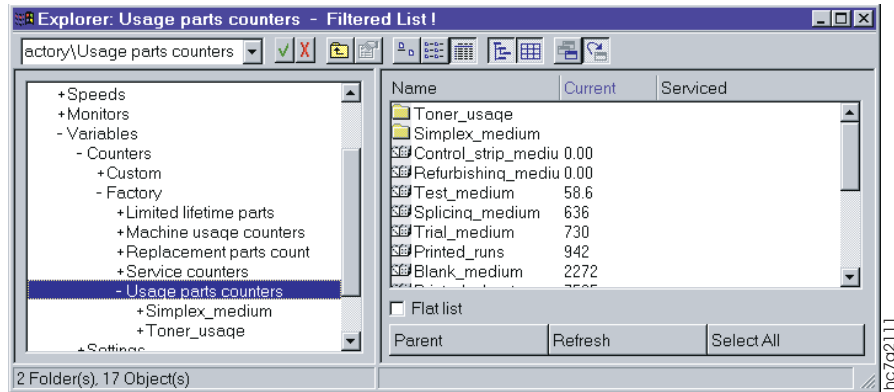

Figure 222. Usage Parts Counters Window
1. To look at the usage parts counters, open the **Counters** window, as shown in Figure 222 on page 256.
3. Click again on **Usage parts counters** and you will see the counters in the list view or right side of the **Usage parts counters** window, as shown in Figure 222 on page 256. The counters are described in Table 75 on page 256.
1. To look at the replacement parts counters, open the **Counters** window, as shown in Figure 222 on page 256.
1. To look at the limited lifetime parts counters, open the **Counters** window, as shown in Figure 222 on page 256.